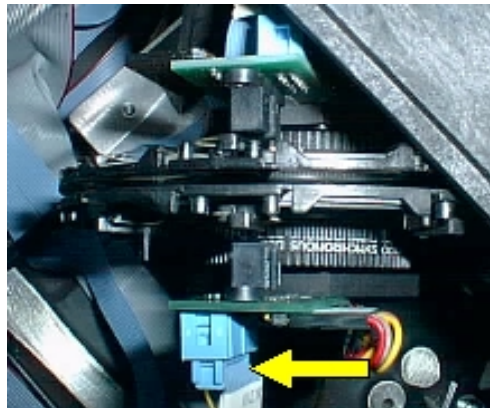

Figure 111 Attaching the emission control cable
10. Attach the emission filter wheel control cable, as shown in Figure 111.